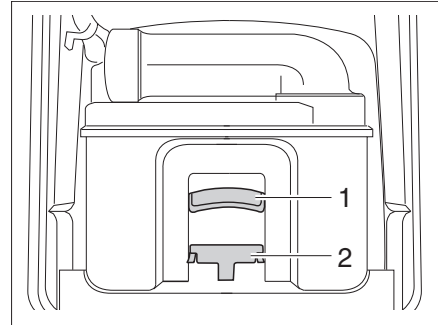

Fig. 351 Thetford cassette
- Pull the retaining clip (Fig. 351,2) forward to unlock the toilet cassette and pull out the cassette at the handle (Fig. 351,1).